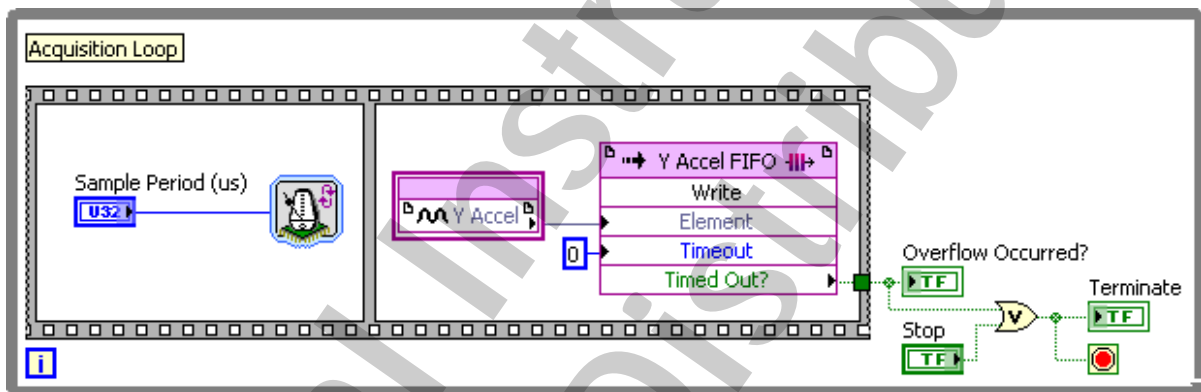

Figure 6-4. Accelerometer VI – Acquisition Loop
6. Modify the Acquisition Loop, as shown in Figure 6-4, using the following items: